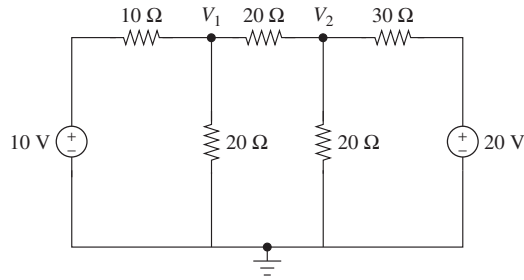

Figure P7.4 Two-node circuit for problem P7-4.
- 7-4.** Consider the two-node circuit shown in Fig. P7.4. The voltages V_1 and V_2 (in volts) satisfy the following system of equations: